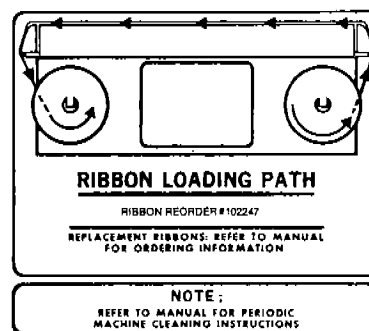

Figure 8
f. Run ribbon over the ribbon guides and across the front of the shuttle as shown in the decal on the ribbon assembly (figure 8).